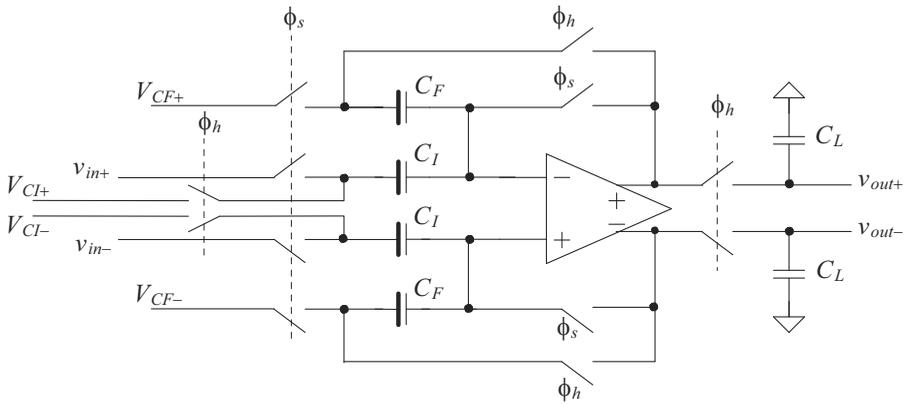

Figure 30.80 Circuit used in problem 30.14.
- 30.14** Derive the transfer function for the circuit shown in Fig. 30.80.